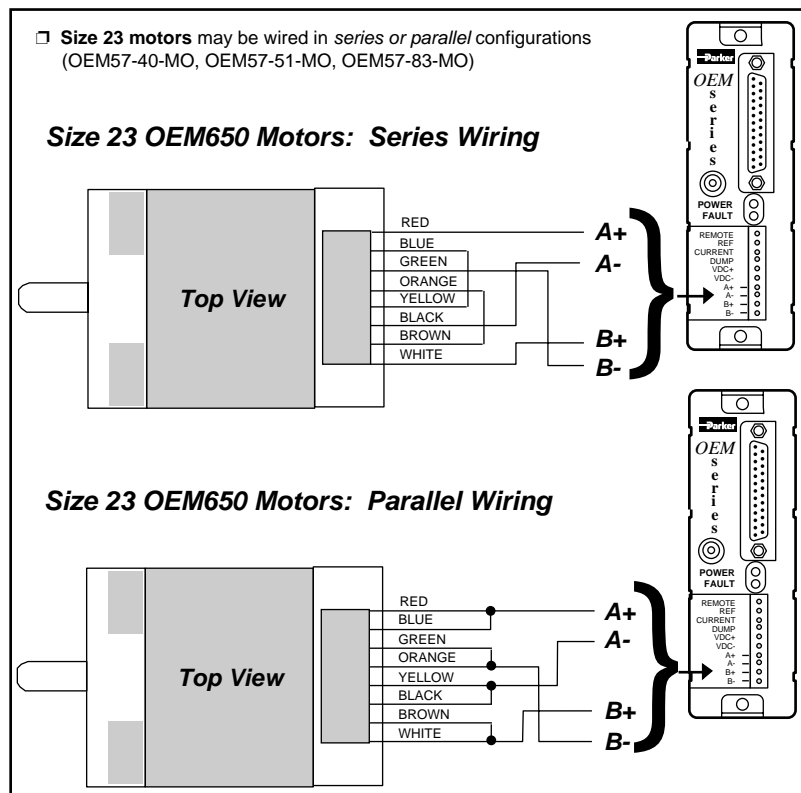
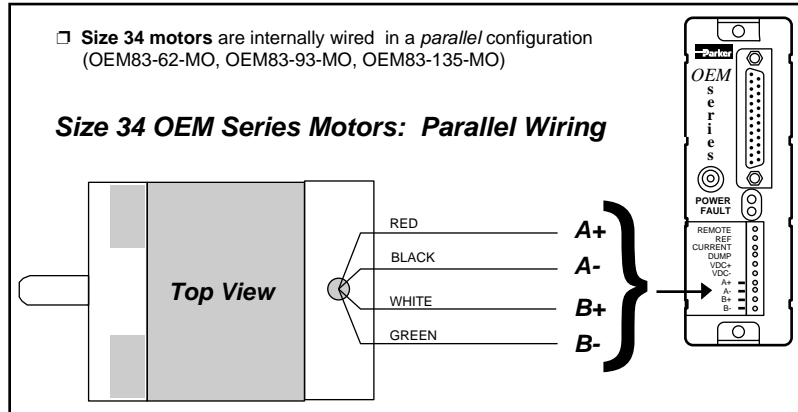

Figure 2-2. NEMA 23 Size OEM Motor Wiring—Series & Parallel
Figure 2-3. NEMA 34 Size OEM Motor Wiring—Series
4. Attach the motor (to A+, A-, B+, B-). Do not connect the motor to the load at this time (refer to Figure 2-2 for 23 size motors or Figure 2-3 for 34 size motors). OEM size 23 motors may be wired in a series or parallel configuration. *If you are using a 75VDC power supply (OEM300) with the drive or drive indexer, Compumotor recommends that you use a series configuration, however; a parallel configuration should be used when the power supply is 24VDC - 48VDC. Parallel configurations will cause the drive to dissipate slightly more heat than a serial configuration. This increase in drive temperature will not affect the unit's performance, but it may adversely affect heat-sensitive devices that are stored within the same enclosure.*